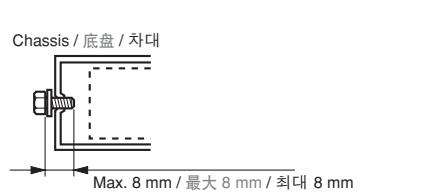

Figure 3 / 圖 3 / 그림 3
- Use the enclosed screws for installation. Using other screws can cause damage. (Figure 3)
- 请使用附带的螺丝进行安装。使用其他螺丝可能引起故障。(图3)